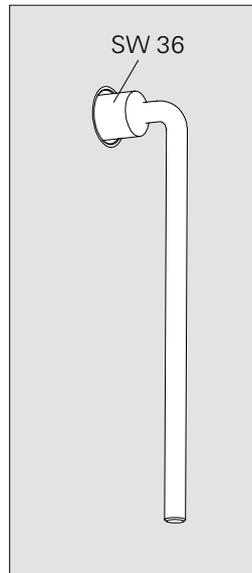

Fig. A5.12
1. Remove bolt ISO 4014 M24 x 70-10.9 (23) from the the Suspension Head VGK (12).
2. Remove the Suspension Head VGK (12).
3. Release Screw-On Cone-2 M24/DW 20 (21) by means of socket wrench SW 36.
4. Screw out the Screw-On Cone-2 M24/DW 20 (21) by hand. (Fig. A5.12 + A5.13)